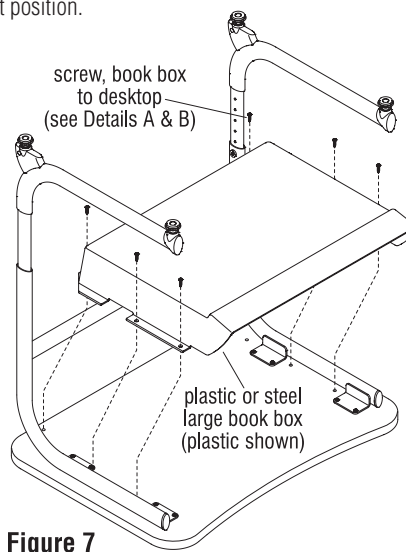

Figure 7
1. Carefully turn the desktop upside down on a soft, protective surface (Figure 7).
2. Position the cantilever book box, as illustrated onto the underside of the cantilever desk. Align book box to pre-drilled holes in desktop. Using the appropriate screws (see Details A & B, page 1), secure the plastic book box to the desktop using all book box mounting holes. Do not over-tighten screws (Figure 7).